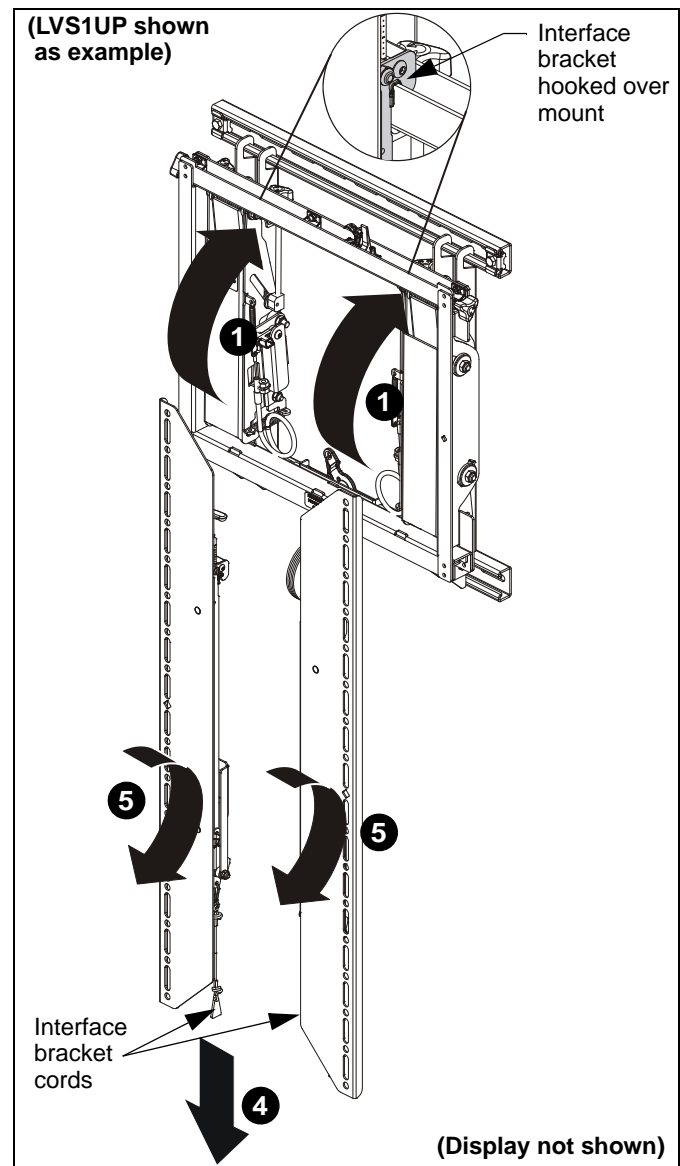

Figure 13
4. The displays can be easily removed by pulling both interface bracket cords down. (See Figure 13)